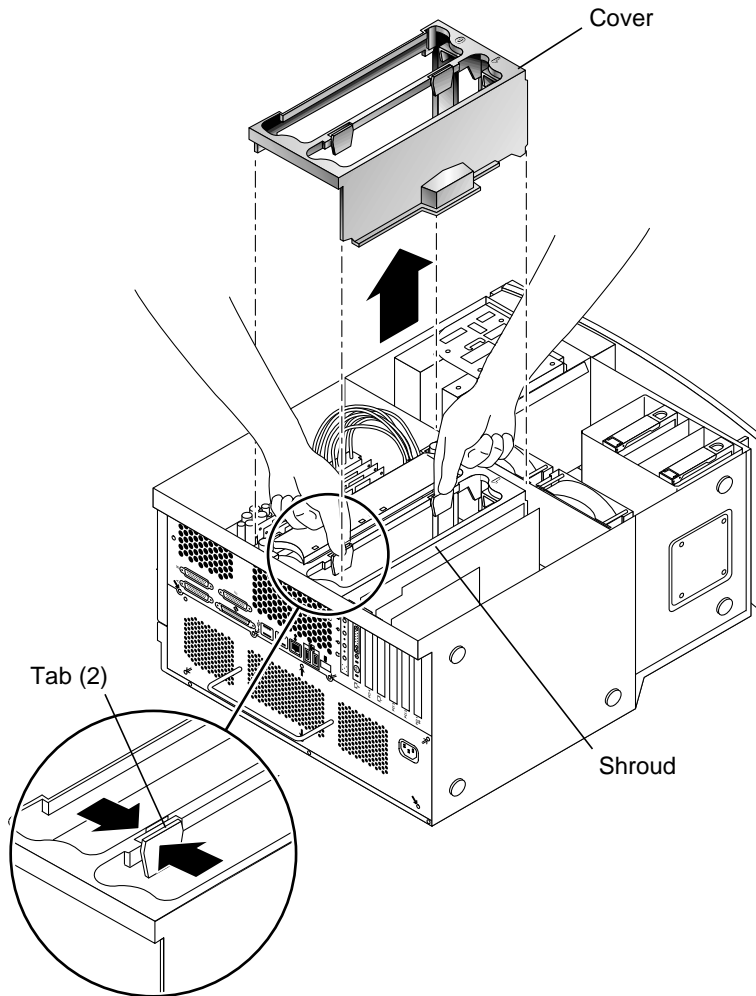

FIGURE 8-6 Removing the Cover for the Shroud
- a. Remove the cover for the shroud (see FIGURE 8-6).**